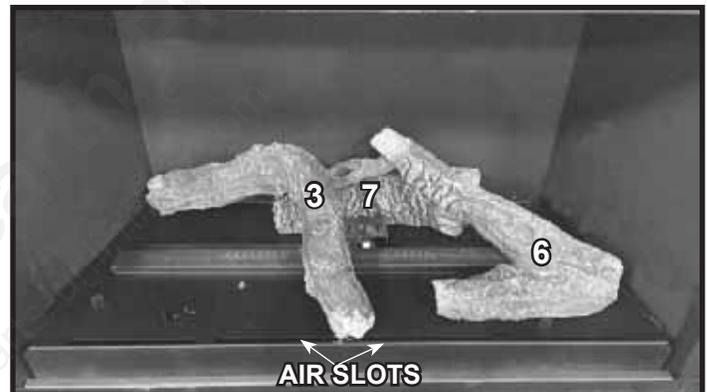

Figure 19. Place Log #3
19. Install Log #3 by placing it on the base pan as an arch where one end contacts the back left corner of the firebox and the other end rest on the sheet metal between two air slots on the front of the base pan. Log #3 should lean back and rest on Log #7. See Figure 19.